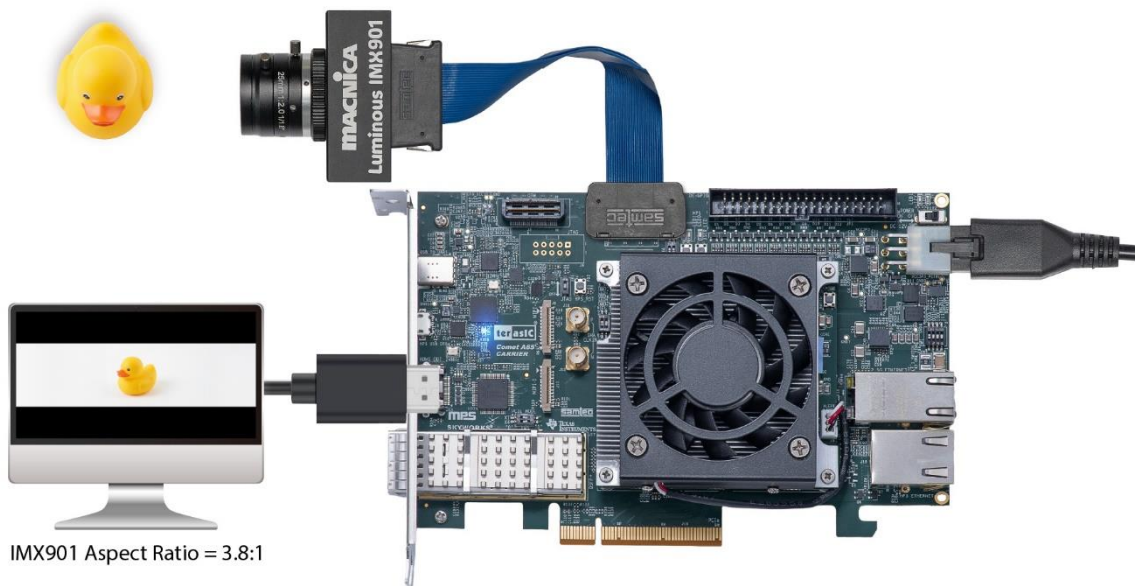

Figure 2-34 SLVS_EC_RX_to_HDMI_IMX901 demo test
- Once the configuration is completed, the video will be displayed, as shown in **Figure 2-34**.